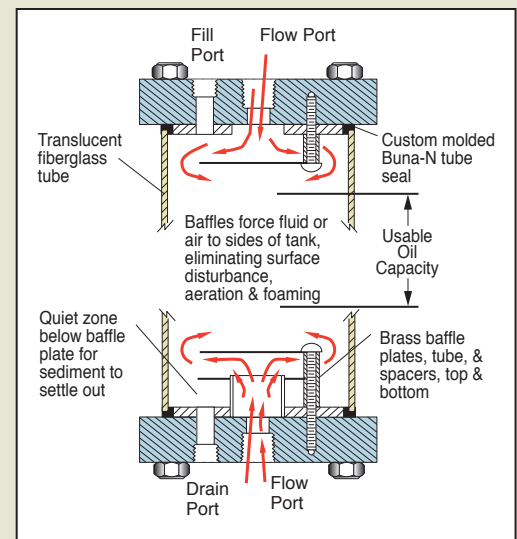

Figure 3. Fabco-Air Single tank construction highlighting the engineered baffle system
3. Fluid aeration and foaming can reduce intended cylinder control and make its operation “mushy.” Properly designed air-oil tanks have special baffling top and bottom which eliminates such disturbance. (Figure 3.)